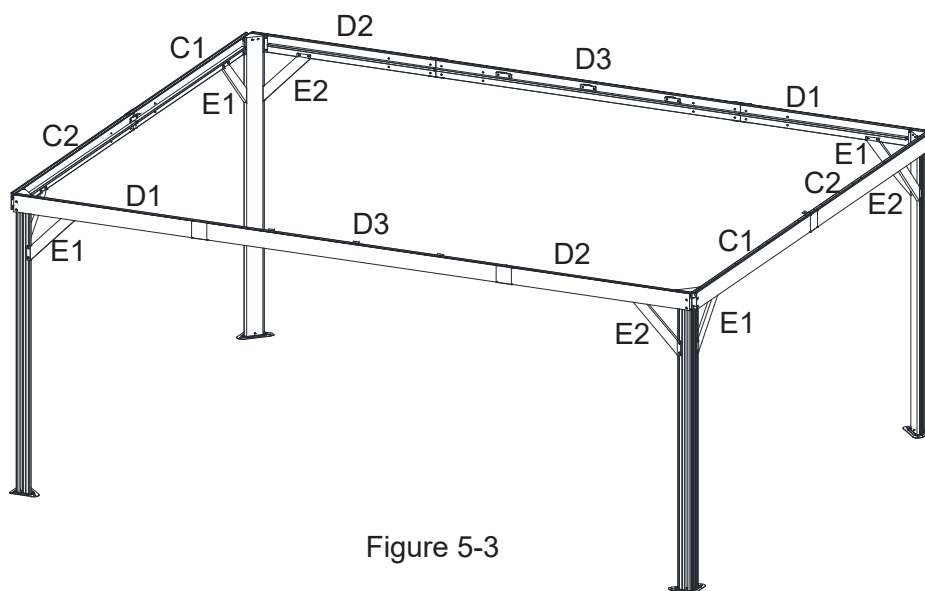

Figure 5-3
5.3. Repeat for all Corner Posts and Lintels. Tighten All Bolts. See Figure 5-3.